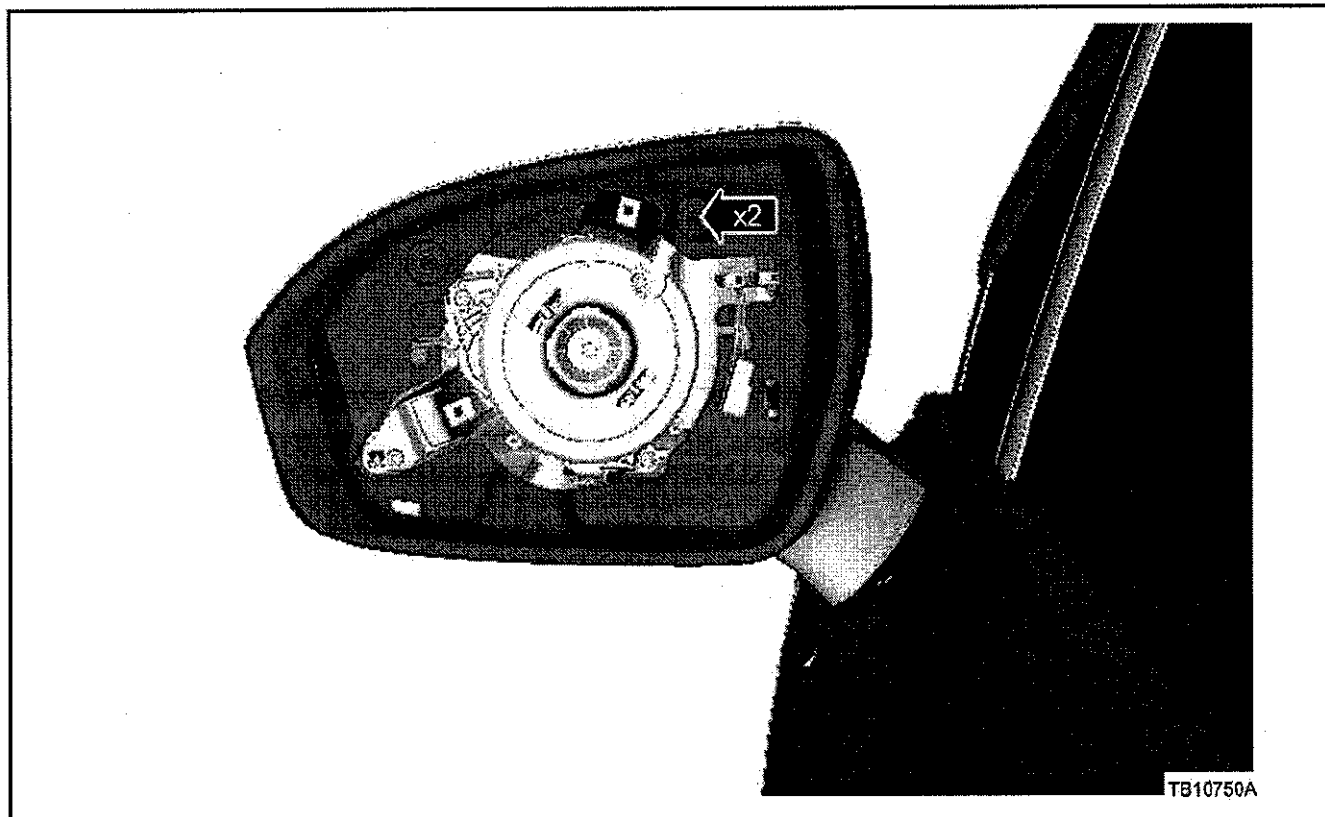

Figure 3 - Article 15-0135
3. Remove the two (2) screws and the mirror glass bezel. It is not necessary to remove the mirror motor. (Figure 3)